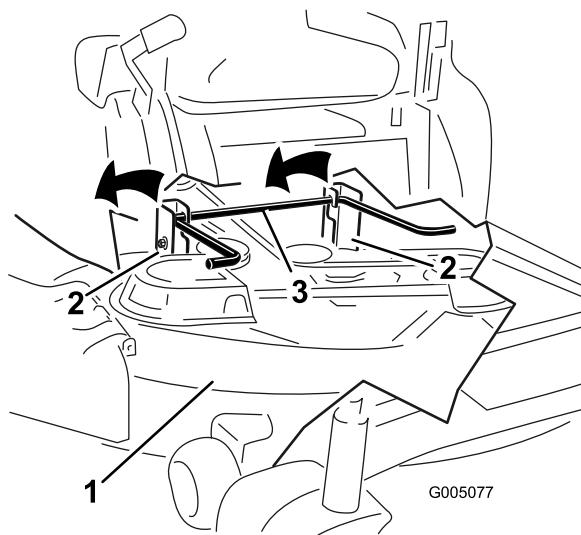

Figure 74
7. Lift the mower deck and hanger brackets clear of the rear lift rod and lower the mower carefully to the ground (Figure 74).